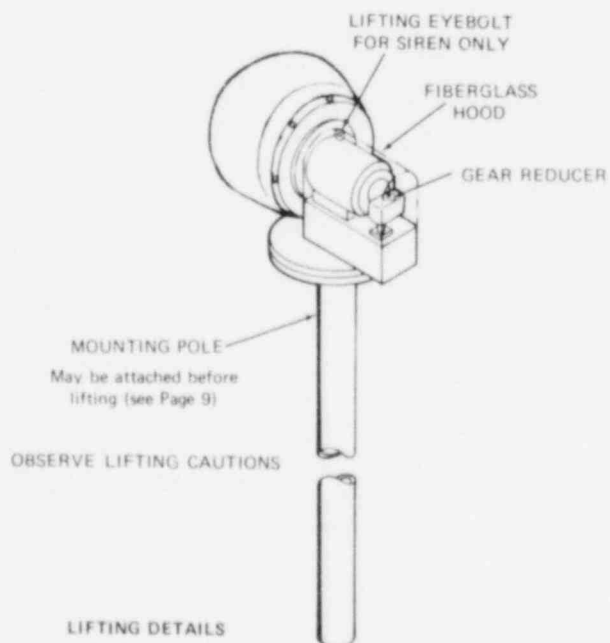

FIGURE 7.
- b. The primary lift point is the pole and not the eyebolt on the siren. The gear reducer end of the siren should lead the way up as the siren and pole are raised to the vertical position (see Figure 7).